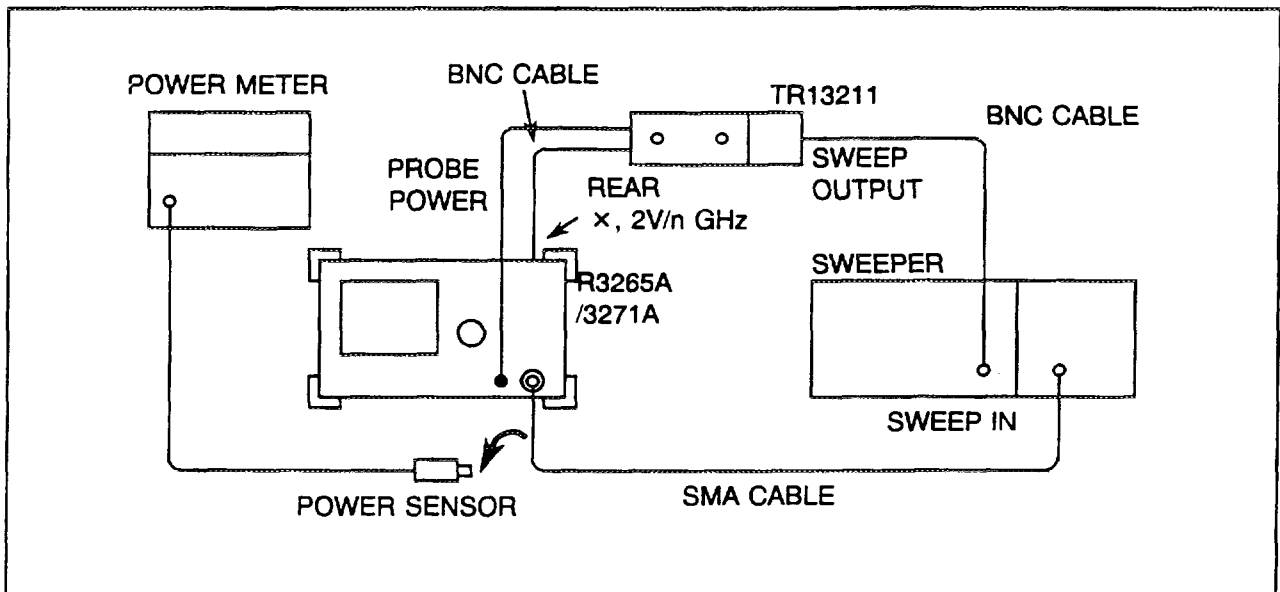

Figure 5-12 Frequency Response Adjustment Setup
(1) Zero and calibrate the power meter. Rotate and set the CAL FACTOR control to the 2GHz calibration factor of the power sensor.
(2) Connect the equipment as illustrated in Figure 5-12.
(3) Press the INSTR PRESET key on the HP8350, and set the control as follows: